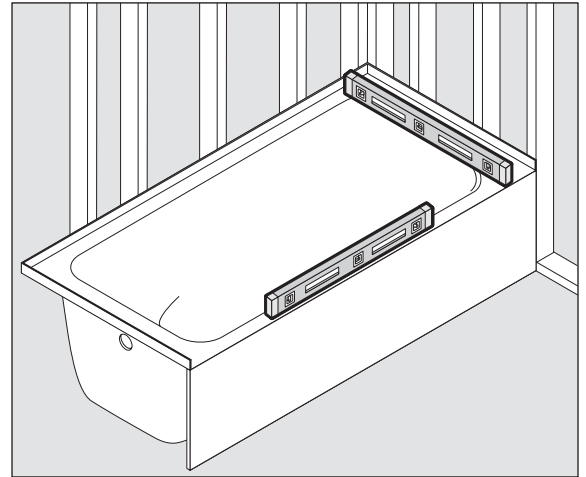

FIGURE 1. Check to assure tub is level.
- Trial fit tub in prepared alcove. With tub sitting flat on floor, check with level on top of tub. Tub should be level from front-to-back and side-to-side (**Fig 1**).